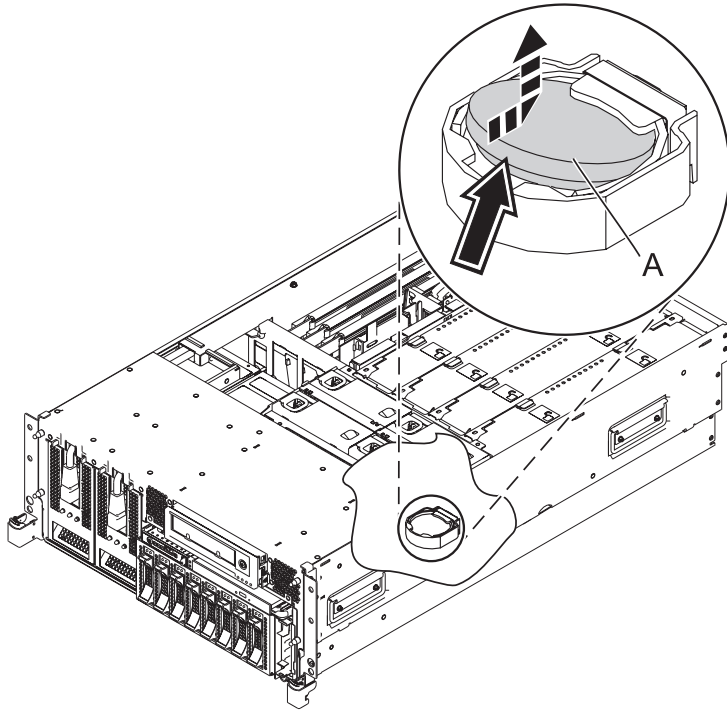

Figure 3. Removing the time-of-day battery
16. Remove the time-of-day battery (A) from the system backplane, as shown in Figure 3 on page 7.